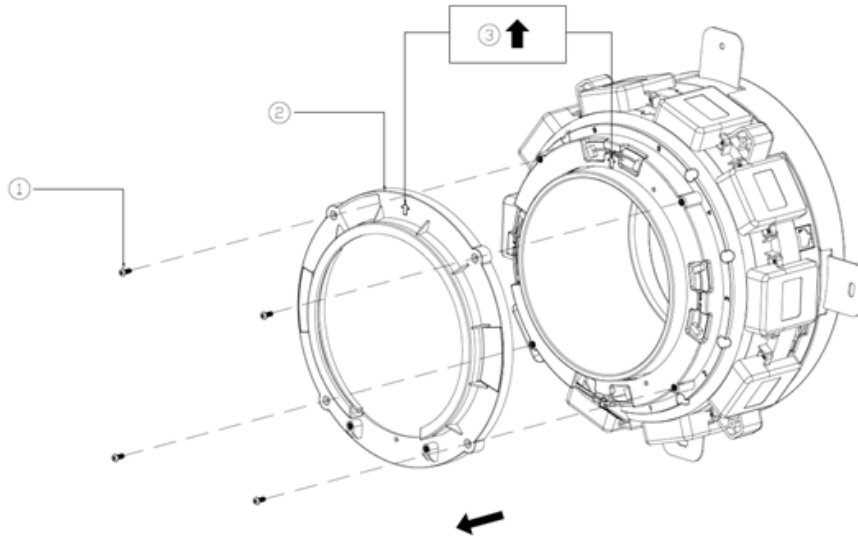

Figure 2-1
(2) Remove the Back Cover
As shown in Figure 2-1, remove the 4 screws① from the back of the scanner, and remove the back cover②(RVM100-BC). The specification on the machine screw is M3*8mm.